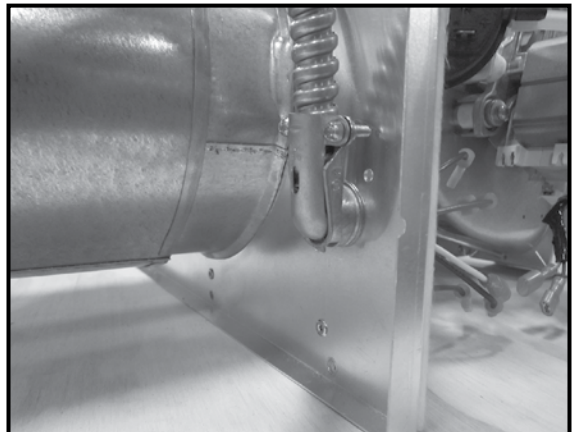

Figure 3.9
4. Install PVI wiring harness through the electrical access hole in back cover cap. See Figure 3.9.